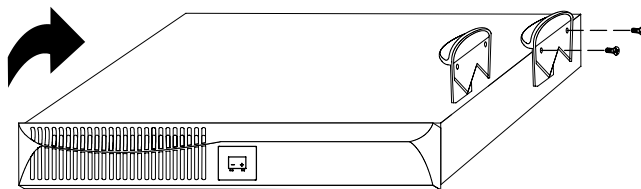

Figure 10. Installing EBM Pedestals
7. Place the EBM cabinet upside down so that the right end of the cabinet is accessible (see Figure 10).